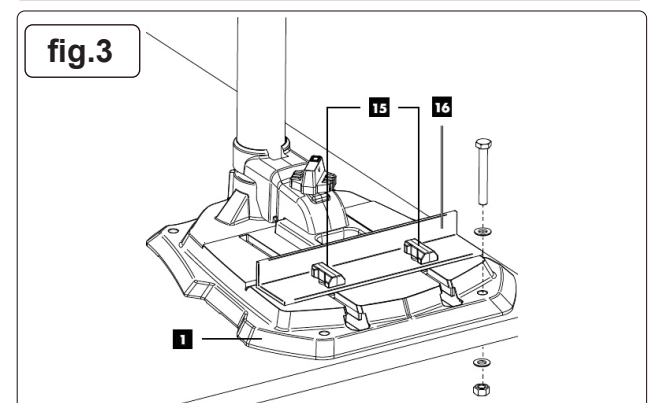

fig.3
5.2. FITTING THE GUIDE / STOP (fig.3)
5.7. SECURING TO A WORK SURFACE (fig.3)